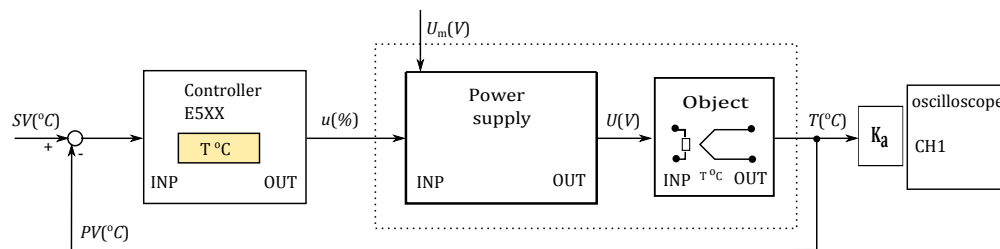

Figure 1: Assembling diagram: PID Control
- ✓ Assemble the test process (see Fig. 1): controller, actuator and the same thermal object you used in Lab. No. 1.